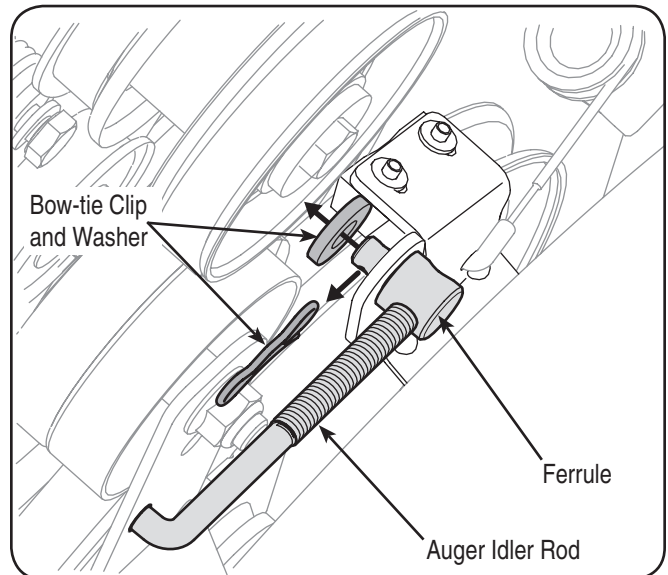

Figure 7-4
1. Remove the bow-tie clip and flat washer from the ferrule in order to disconnect the auger idler rod from the brake bracket assembly. See Fig. 7-4.